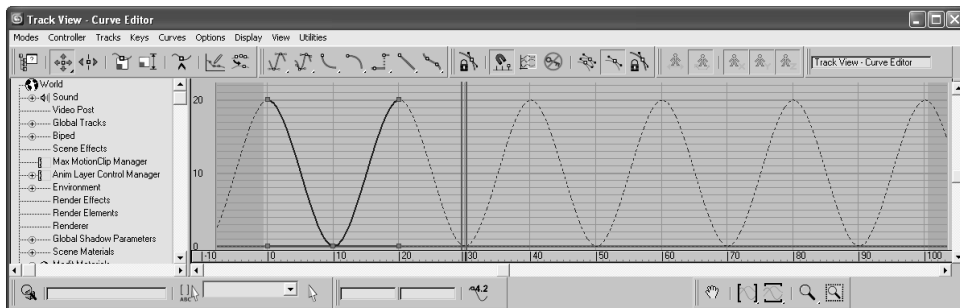

Figure 8.13
4. Once you set the curve to Loop, the Curve Editor displays your animation as shown in Figure 8.13. The out-of-range animation is shown in a dashed line. Scrub your animation in a viewport and see how the ball bounces up and down throughout the timeline range.